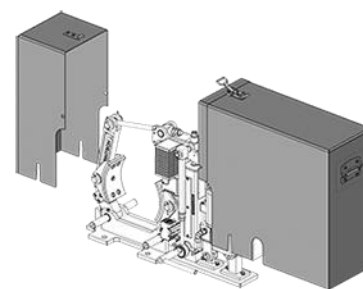

Figure 15
- 3 It can be either dismantled in one piece or split (see *Figure 15*).